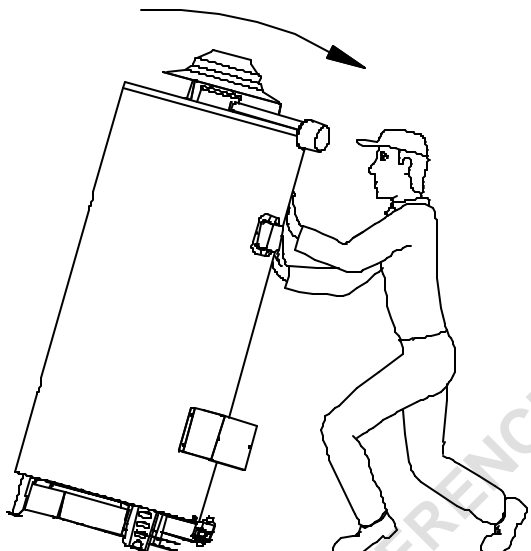

Figure 1
1. Balance the water heater on two (2) legs lifting the remaining leg(s) sufficiently to allow for the assembly of the leg extensions (**see Figure 1**).